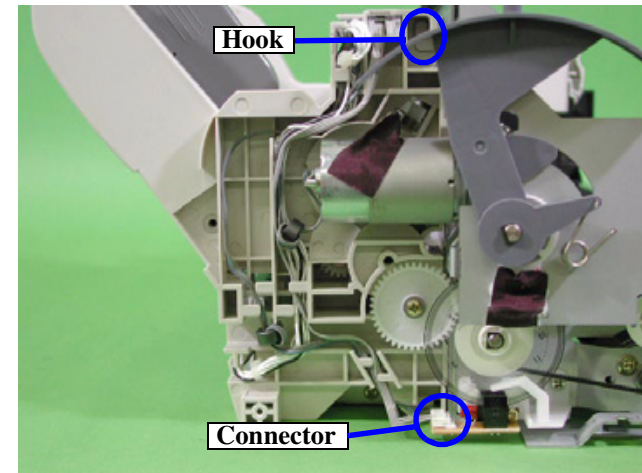

Figure 4-22. Harness Removal
- When re-installing the ASF Unit, make sure that all Harnesses are placed into the appropriate slots while referring to Figure 4-22.